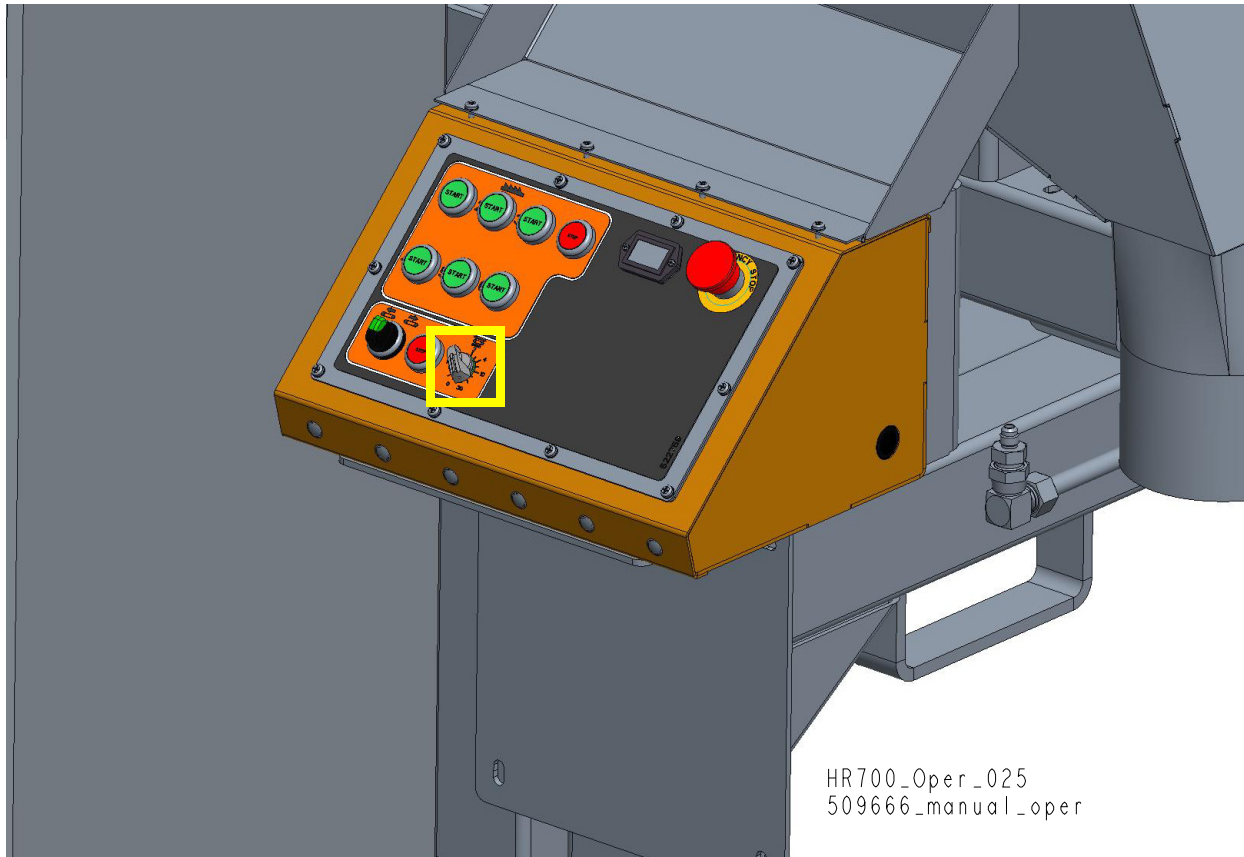

**FIG. 2-22**
**See Figure 2-22.** After the saw head has been successfully started, the feed track can be started. To start the track feed, turn left the Track switch shown in Figure 2-5.